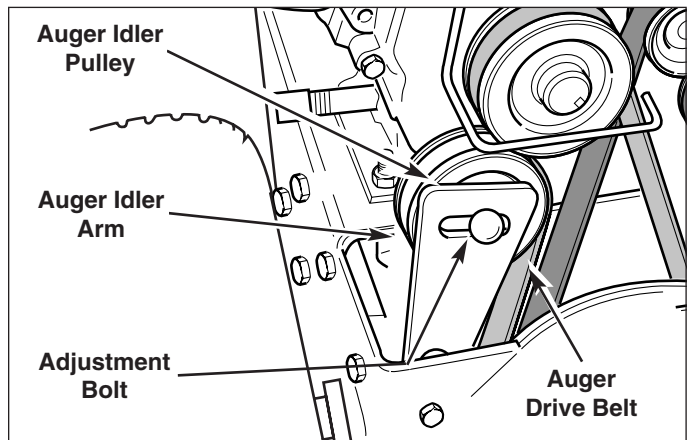

Figure 26. Auger Drive Belt, Guide and Pulley
6. Loosen the adjustment bolt (see Figure 26) and move the auger idler pulley.